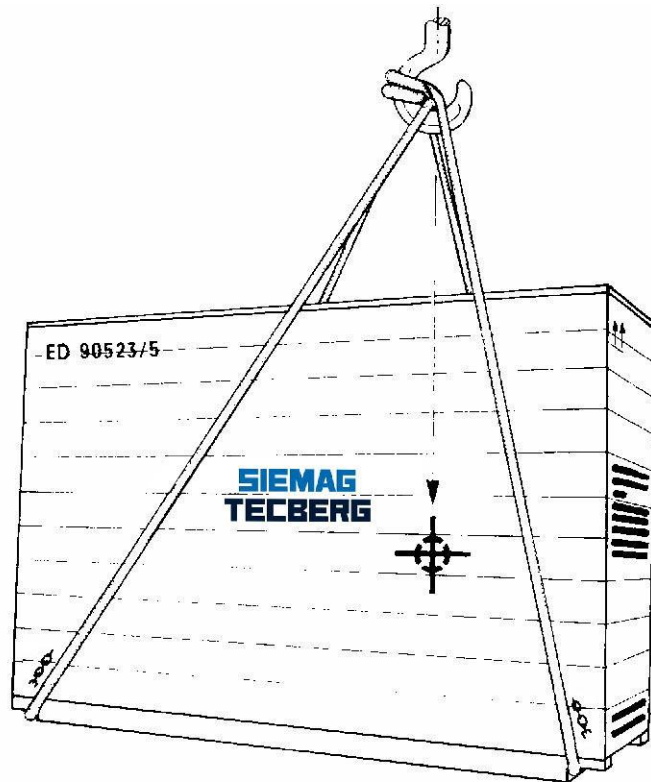

Fig. 10: Off-center center of gravity
*Observe the different length of the slings in Fig. 10